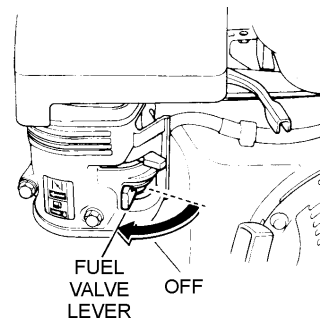

Figure 16. Fuel Valve Lever (OFF)
3. Place the fuel shut-off lever (Figure 16) in the "OFF" position.